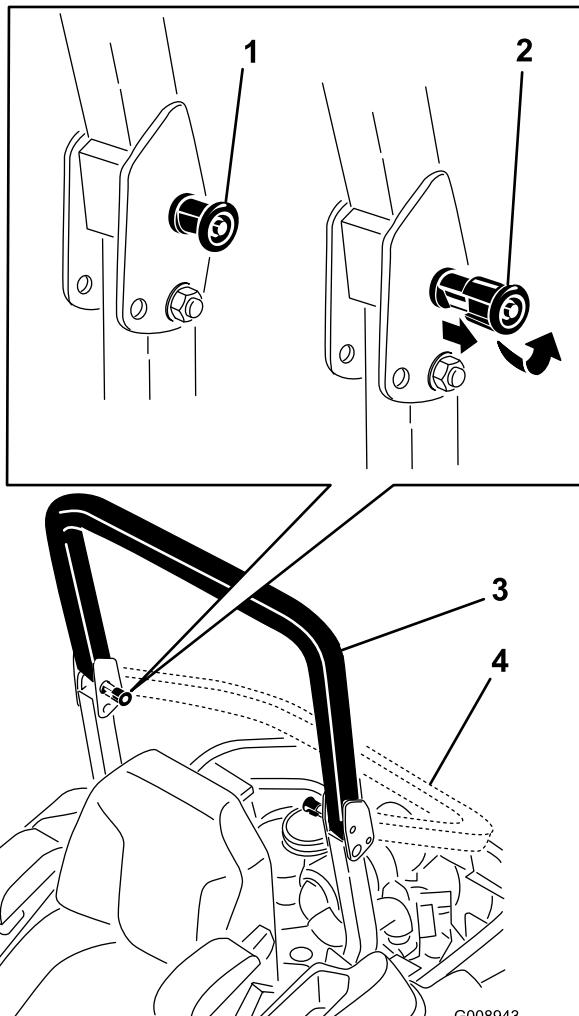

Figure 8
2. Pull both knobs out and rotate them 90 degrees so that they are not engaged (Figure 8).
3. Lower the roll bar to the down position (Figure 8).
4. To raise the roll bar, raise the roll bar to the operate position, rotate the knobs so they move partially into the grooves (Figure 8).
5. Raise the roll bar to the full upright position while pushing on the upper roll bar and the pins will snap into position when the holes align with the pins (Figure 8). Push on the roll bar and ensure that both pins are engaged.